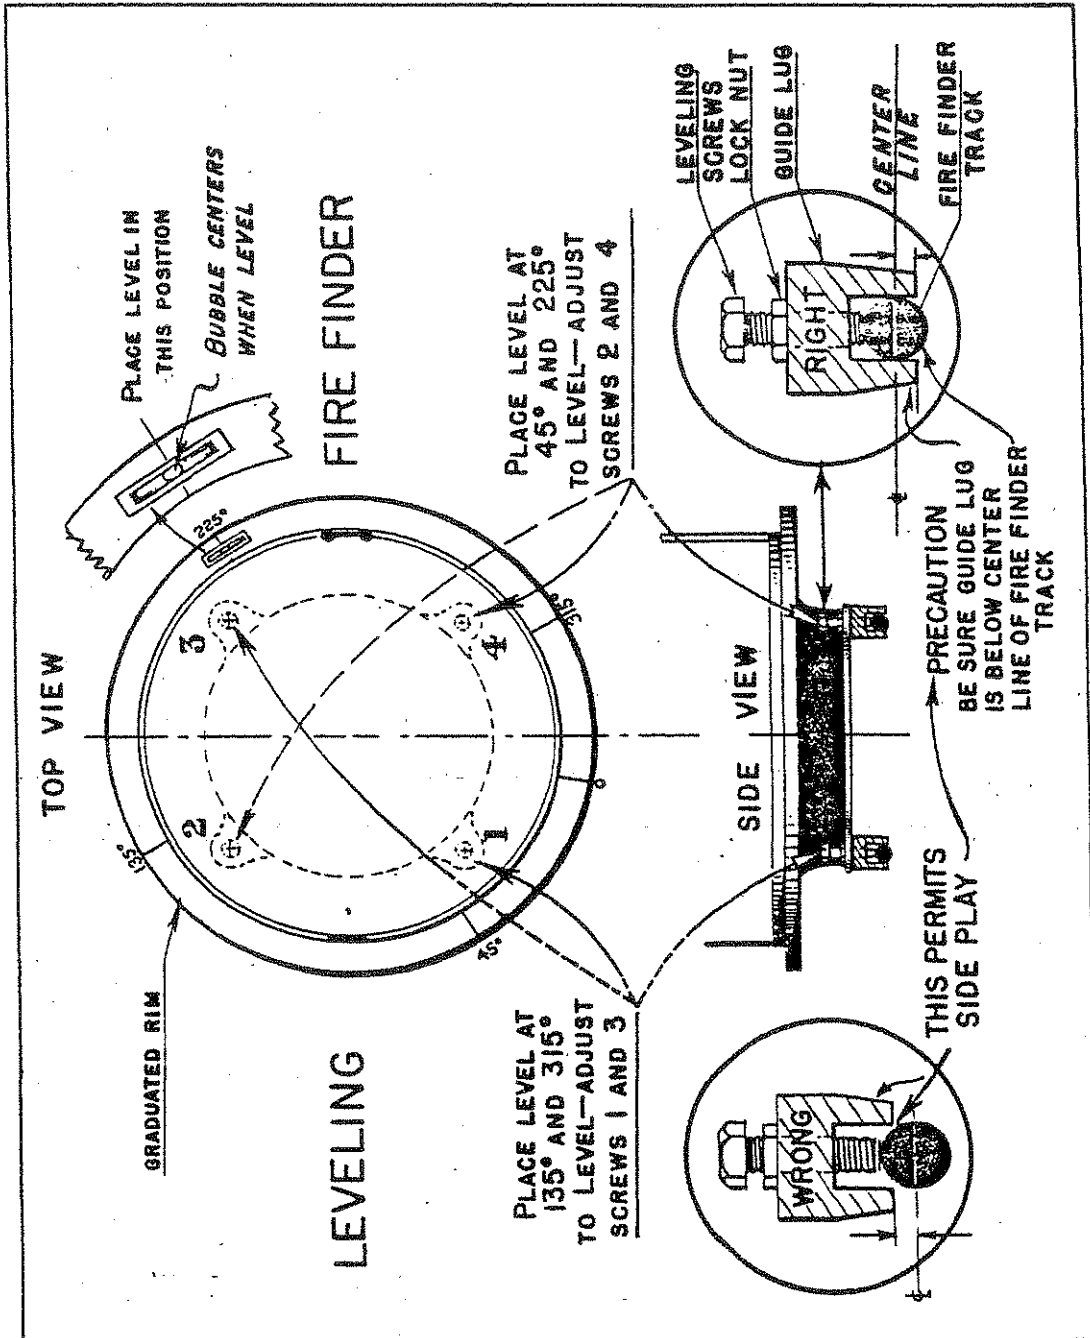

Figure 2. --Leveling the firefinder.
a. Leveling Firefinder. Each morning check to see that the firefinder is level (figure 2).